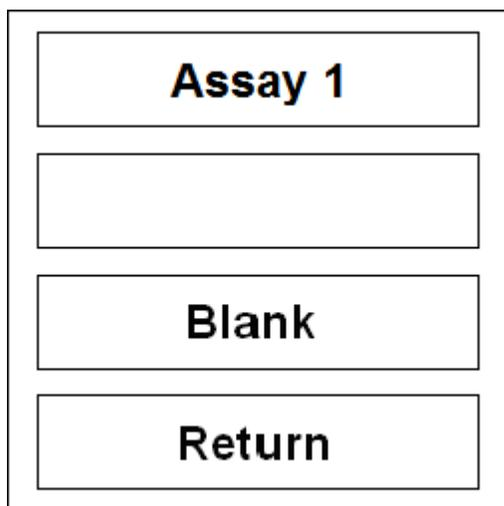

Figure 5. Calibrate screen
- After you select the assay and enter the “**Calibrate**” screen, as shown in Fig. 5, put in the blank tube in the sample chamber. Touch “**Blank**” to take the blank value.